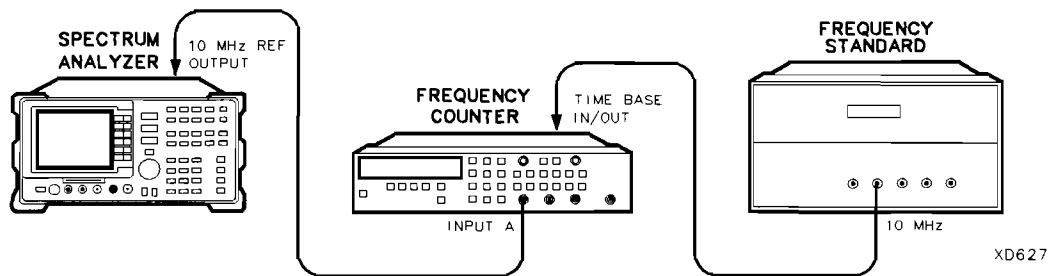

Figure 2-2. 10 MHz Precision Frequency Reference Accuracy Test Setup
1. Allow the spectrum analyzer to sit with the power off for at least 60 minutes before proceeding. Connect the equipment as shown in Figure 2-2.